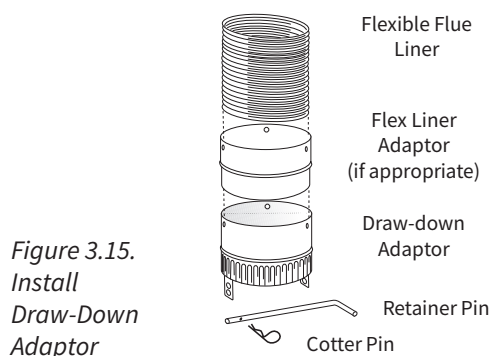

Figure 3.15.
1. Insert the end of the chimney flue flex pipe as far as it will go into the non-crimped end of the adaptor or, if appropriate, the adaptor that may be supplied by the flex liner manufacturer. Orient the draw-down adaptor so that the retainer pin will be parallel with the front of the fireplace. This will ease locating the cotter pin hole. Fig. 3.15.